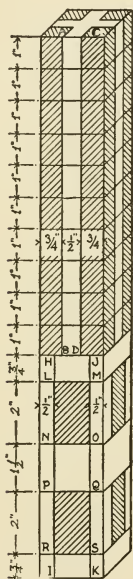

FIG. 394.
around the four sides of the block (see Fig. 394). Then draw two lines lengthwise on each side of the block, as shown at *AB* and *CD*, making them one-half inch apart and three-quarters of an inch from each edge. With a chisel, cut out the four corners of the block down to the tenth line, as represented by the shading in Fig. 394.
**The Rattle** is to be made from the lower portion of the block. This part of the figure is more difficult to cut than the chain. First draw the two lines marked *HI* and *JK* in Fig. 394 one-half inch from the edges; then draw the cross lines *LM*, *NO*, *PQ*, and *RS*, as shown in the illustration. These lines should be similarly drawn upon the other three sides of the block. Remove the wood from the spaces shaded in the drawing, and